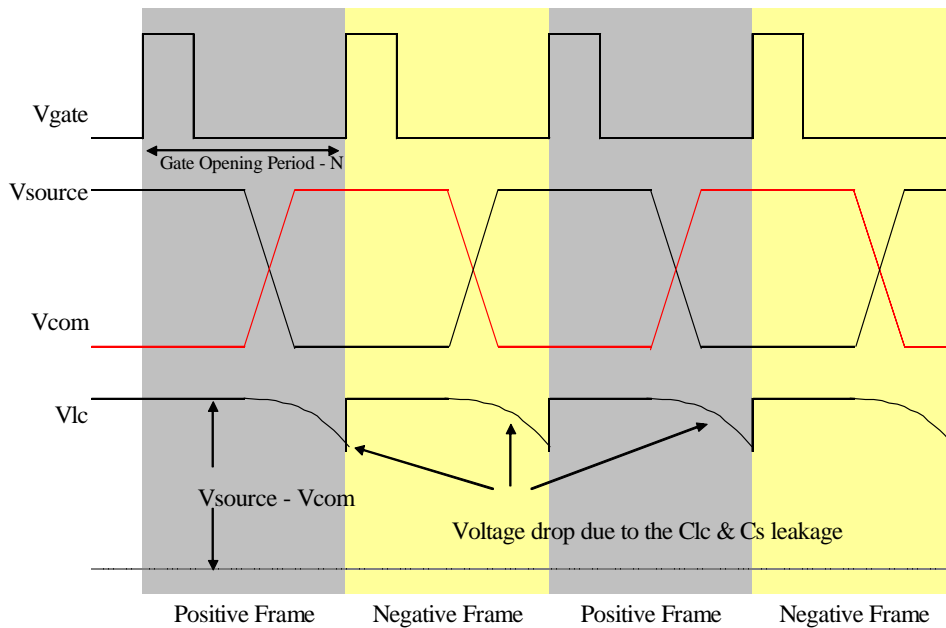

Figure 3-9 LC Voltage drop due to Clc Leakage
- Clc & Cs will have a leakage current in the gate closing period. Moreover, there is a device leakage current from the source to the drain of the transistor and it is panel-by-panel based. If the refresh rate is low or device leakage is large, the leakage current will be significant enough to affect the voltage on LC. Once the gate is activated, the Clc and Cs is charged up again as shown in Figure 3-9. Flickering occurs due to this voltage drops.